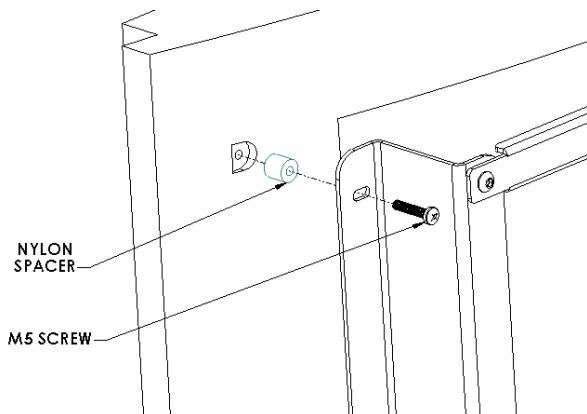
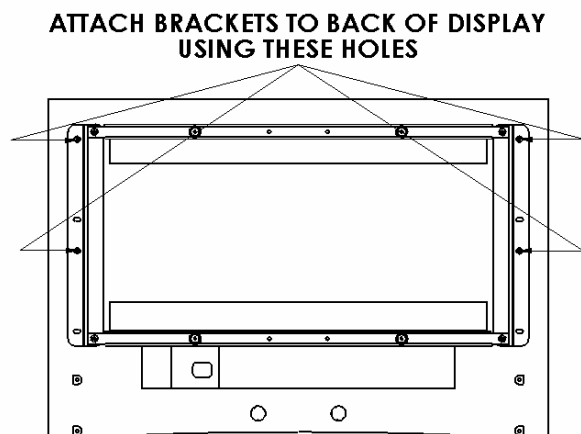

Figure 5
Figure 6
3. Using M5 screws and nylon spacers, secure side brackets to display (see Figure 5 & Figure 6). Do not over tighten screws. The 1/4-20 button head cap screws attaching the side and center brackets may need to be loosened in order to line up holes on display. If this is done, please be sure to tighten them once again.